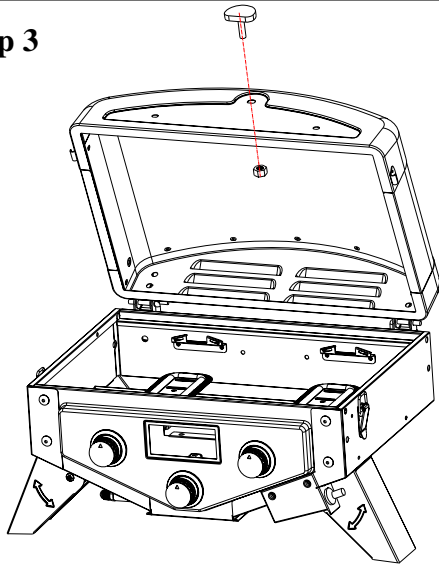

Fig. 3
*Procedure:* Remove the nut from the Heat Indicator first, then attach the Heat Indicator to the Grill Lid using the nut as shown in Fig. 3.